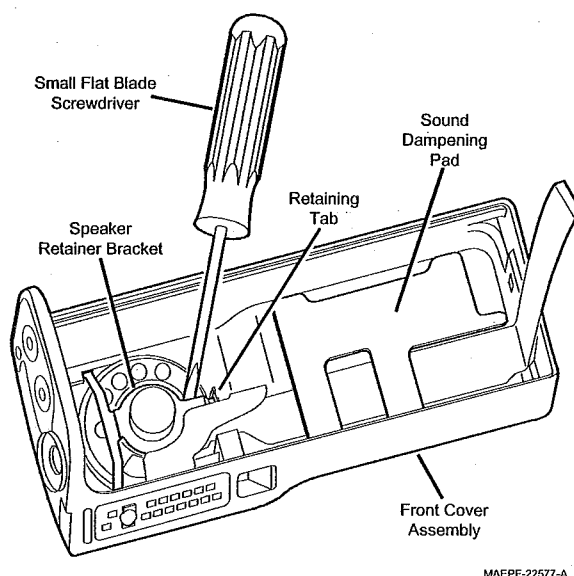

Figure 3.8
3. Remove the speaker retainer bracket, speaker, microphone, and front cover flex from the front cover housing (See Figure 3.8).